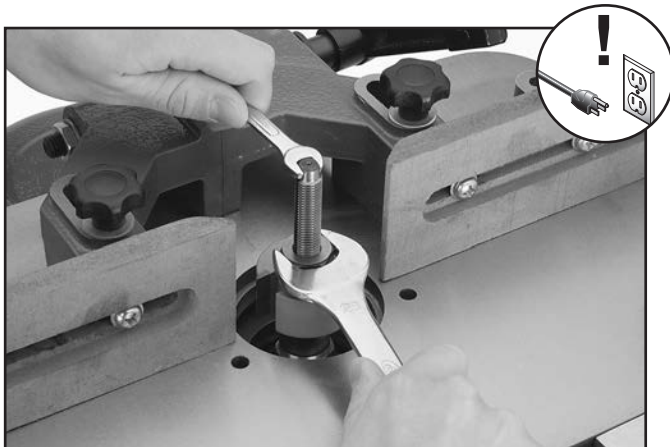

Figure 16. Tightening spindle lock nut.
6. Tighten spindle nut while holding spindle stationary with 8mm wrench on spindle flats for leverage, as shown in **Figure 16**.